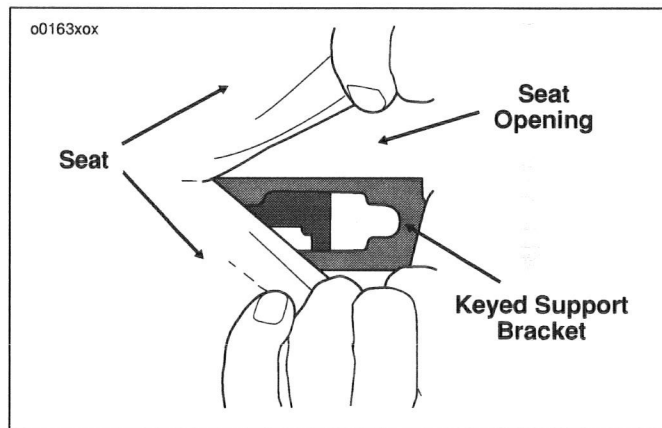

Figure 32. Backrest Mounting Bracket
3. See Figure 32. Insert the support arms into the keyed support bracket.